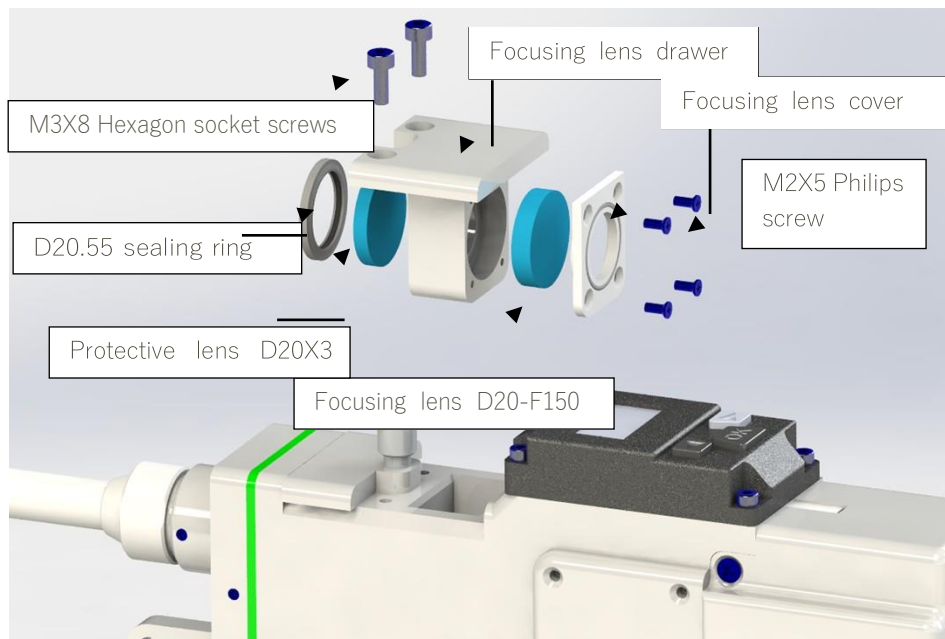

Figure 11 Split diagram of upper protection lens and focusing lens on HW970
- (1) As shown in Figure 11, loosen two M3X8 Hexagon socket screws, pinch both sides of the drawer-type lens holder and slowly pull out the focusing lens drawer;
- (2) Remove focusing lens: use a small cross screw to loosen four M2X5 Phillips screws, remove the focusing lens cover; take out the focusing lens D20-F150
- (3) Remove the protective lens: carefully remove the D20.55 sealing ring, and take out the protective lens D20X3.
- (4) Install the cleaned (or replaced) lens into the focus lens drawer
- (5) Reinstall the focusing lens cover and D20.55 sealing ring.
- (6) Reinsert the focusing lens drawer back into the welding head, and tighten the locking screw.